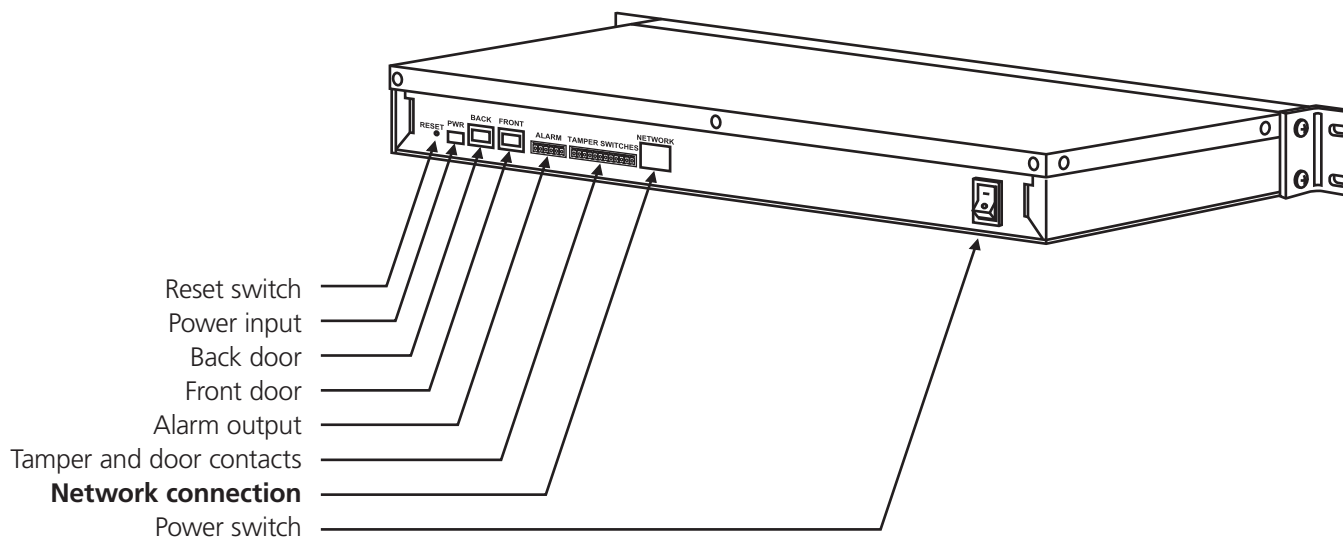

Figure 12. Connecting the control unit to the network.
- Use the other supplied CAT5 cable to connect the control unit to a network. Connect the CAT5 cable to the port labeled "NETWORK" on the back of the Control Unit as shown in Figure 12.